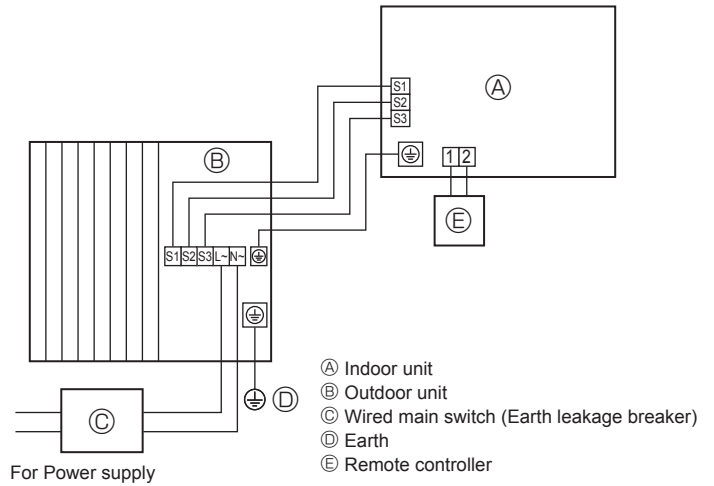
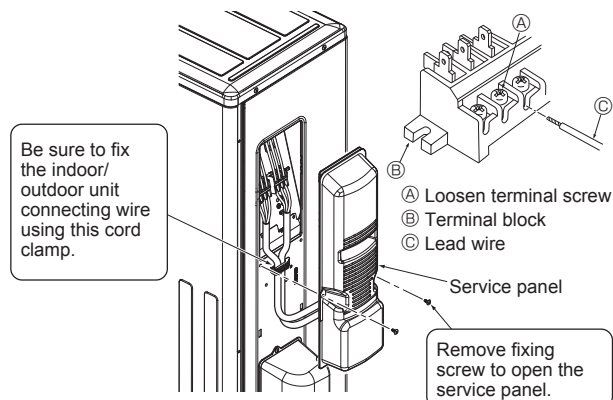

Fig. 6-1
Fig. 6-3
### 6.1. Outdoor unit (Fig. 6-1, Fig. 6-2, Fig. 6-3)
- ① Remove the service panel.
- ② Wire the cables referring to the Fig. 6-1, Fig. 6-2 and the Fig. 6-3.